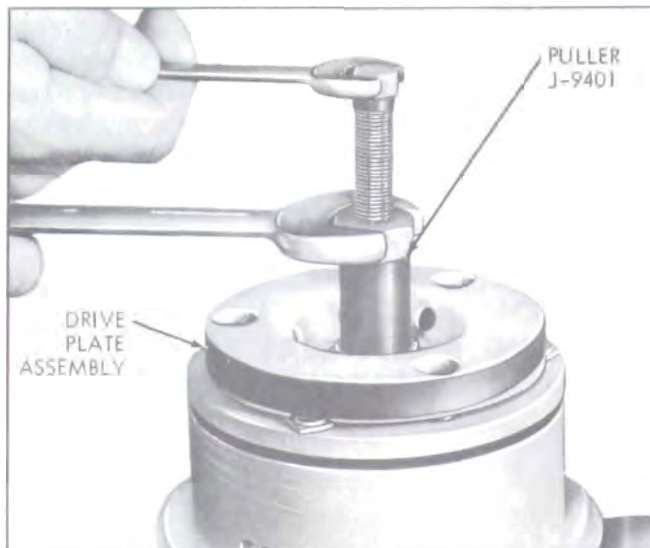

Figure 11-38—Removing Drive Plate Assembly
2. Screw threaded hub puller J-9401 into the drive plate hub. Hold body of tool with a wrench and tighten the center screw to remove drive plate assembly. See Figure 11-38.